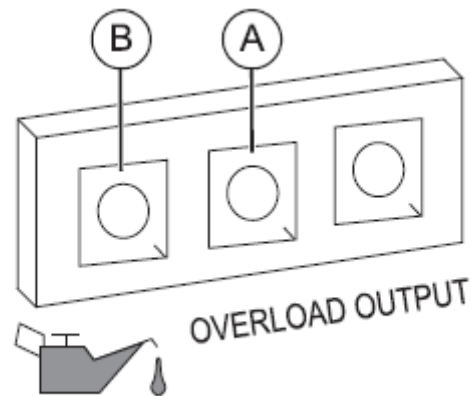

Figure-10 Shutdown Fault
- * Do not overload generator or individual panel receptacles. **See Figure-10.** If an overload occurs, the overload LED (A) will illuminate and AC output ceases. To correct see the Generator Status Lights. Read Know Generator Limits carefully.